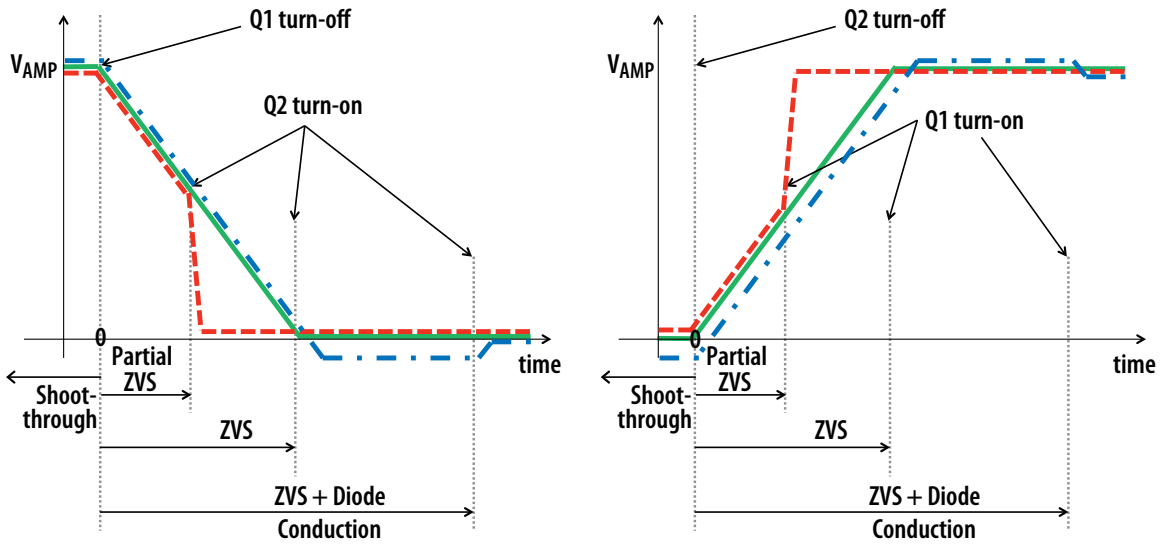

Figure 4: ZVS Timing Diagrams
Setting the correct time to establish ZVS transitions is critical to achieving high efficiency with the EPC9506 amplifier. This can be done by selecting the values for R74 and R75 respectively. This procedure is best performed using potentiometer P74 and P75 installed that is used to determine the fixed resistor values. The procedure is the same for both single ended and differential mode of operation. The timing MUST initially be set WITHOUT the source coil connected to the amplifier. The timing diagrams are given in Figure 4 and should be referenced when following this procedure. Only perform these steps if changes have been made to the board as it is shipped preset. The steps are:
6. While observing the oscilloscope adjust P74 for the rising edge of the waveform so achieve the green waveform of figure 4. Repeat for the falling edge of the waveform by adjusting P75.